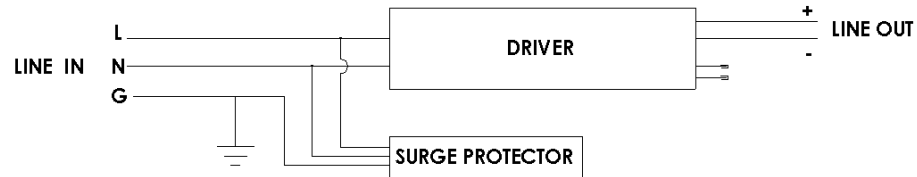

Fig. 14. WIRING DIAGRAM
5. Route Line-in cord thru the cord grip on the correct side of the driver housing (See Fig. 17). Using the included lever nut connectors, connect Line, Neutral, and Ground wires to matching wires of the driver per Fig. 14 wiring diagram.
9. Route Line-out cord thru the other cord grip. Strip Cord wire as needed. Make connections to the driver output wires as shown in Fig. 14 using provided lever nuts.